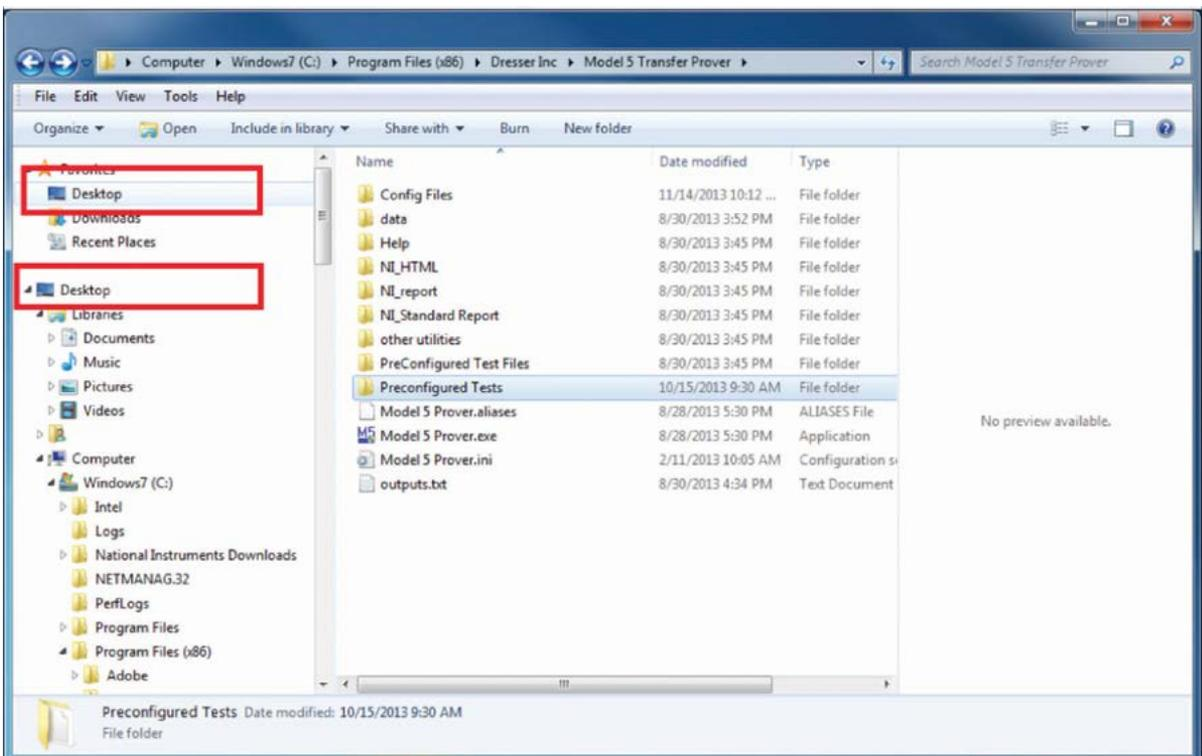

Figure 7: Select “Desktop”
7. Save files to the Desktop. Within the same window on the left-hand side, scroll up to reveal “Desktop”. Select “Desktop” as shown in **Figure 7**.